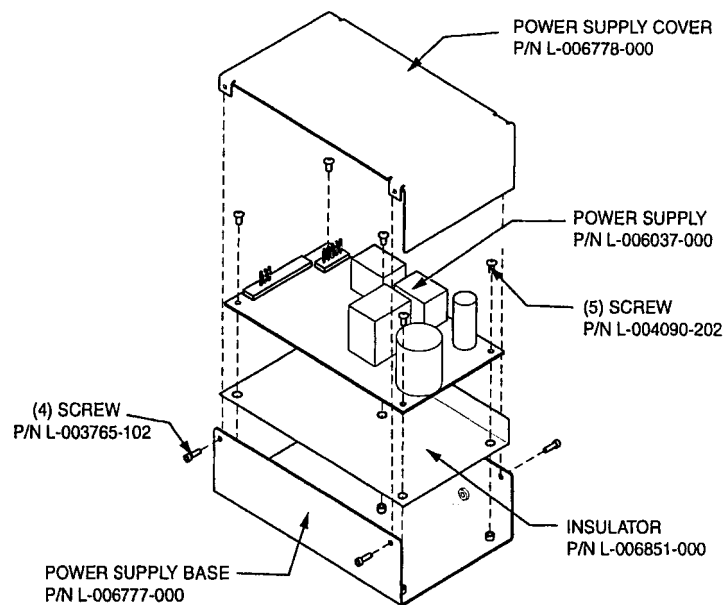

FIGURE 4-45.
1. Fold the insulator (P/N L-006851-000) upward 90° along the bead line. See Figure 4-45.